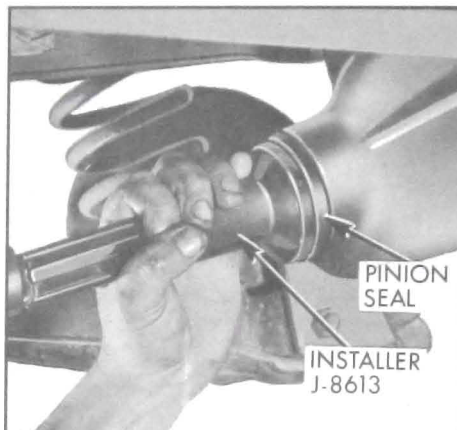

Figure 6-26—Installing Pinion Oil Seal
3. Install new "O" ring seal on pinion Coat O.D. of new pinion oil seal with sealing compound and install seal using Installer J-8613. See Figure 6-26.